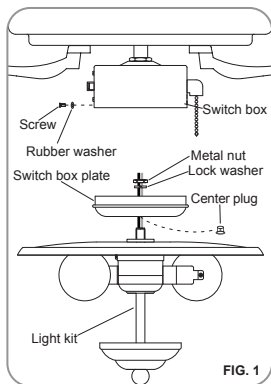

FIG. 1
Step 1: Remove the screws and the rubber washer from the switch box to allow easy wiring. (Fig.1)
Step 2: Remove and discard the center plug from the switch box plate. Attach the light kit to the switch box plate by feeding the wires and threading the light kit through the hole of the switch box plate, secure it to the switch box plate using the nut and lock washer. Be sure it is tight enough to prevent the light kit from vibrating loose. (Fig.1)
Paso 1: Quite los tornillos y arandela de goma de la copa de interruptor para facilitar el cableado. (Fig.1)
(Fig.1)